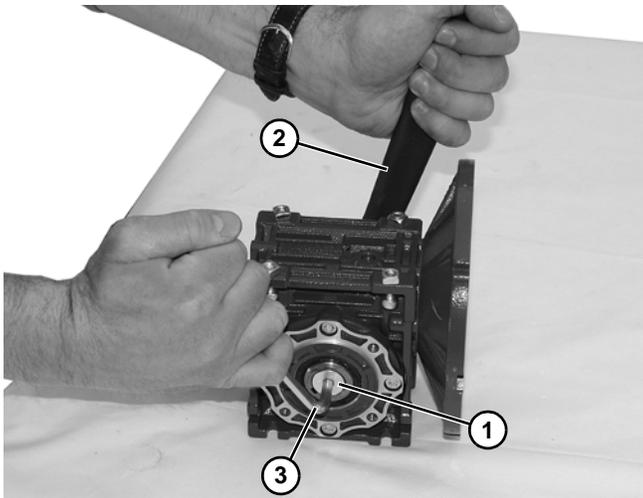

Figure 21
2. Loosen driveshaft bolt (**Figure 21, item 1**).
3. Hold the driveshaft with a wrench (**Figure 21, item 2**) as shown to keep shaft from turning, while removing screw with hex wrench (**Figure 21, item 3**).
8. Hold the driveshaft with a wrench (**Figure 21, item 2**) as shown to keep shaft from turning, while installing screw with hex wrench (**Figure 21, item 3**). Tighten capscrew to 100 in-lb (11.5 Nm) for 42CZ or 350 in-lb (39.5 Nm) for 52C, 63B5 and 71B5.